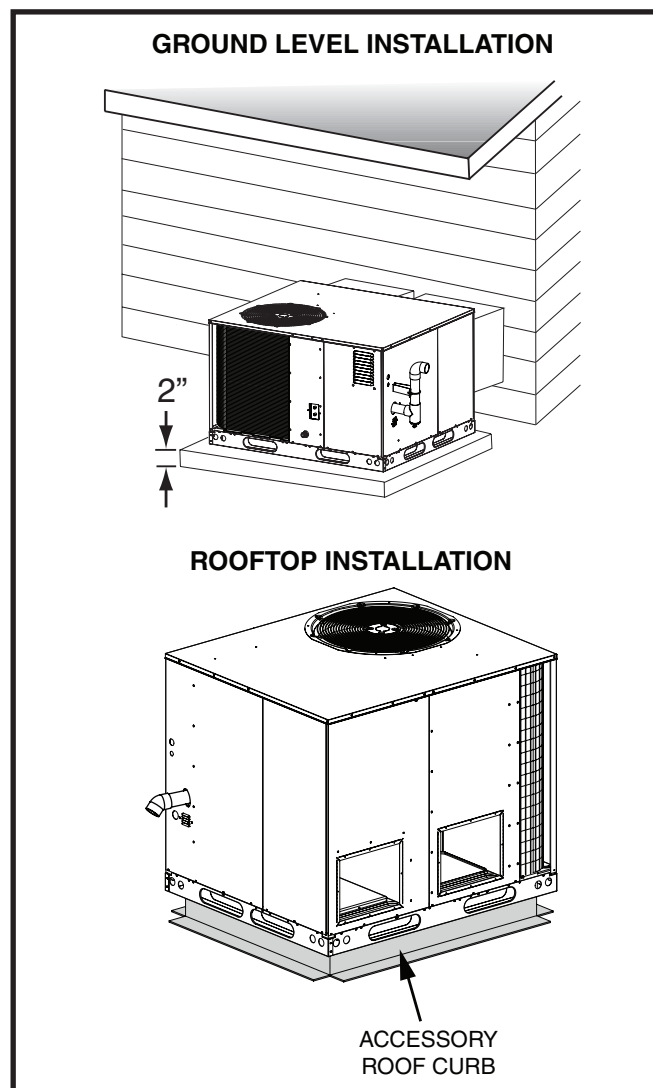

Figure 3. Ground & Rooftop Installation
- A suitable mounting pad must be provided and be separate from the building foundation. The pad must be level to ensure proper condensate disposal and strong enough to support the unit's weight. The slab height must be a minimum of 2" (5cm) above grade and with adequate drainage. See Figure 3.